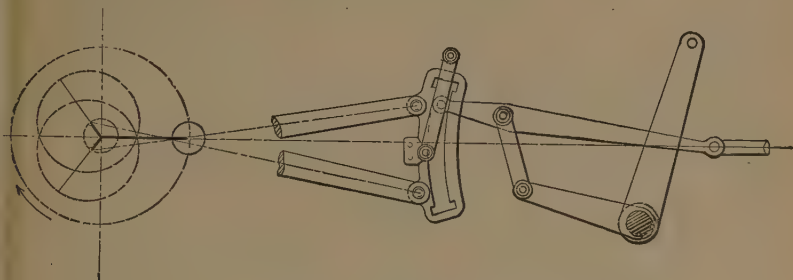

Fig. 165. Stationary Link.
Q. To what class is the stationary-link motion, Fig. 165, best adapted?